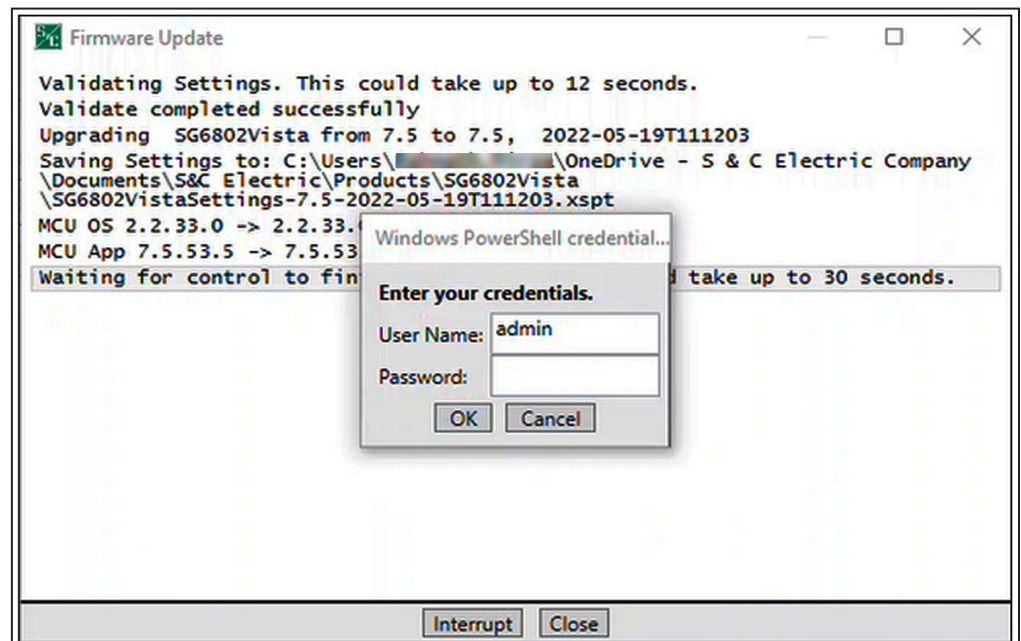

Figure 34. The Windows PowerShell Credential dialog box.
STEP 12. If the Windows PowerShell Credential dialog box appears, enter the User Name and Password, and click on the **OK** button. Contact the Global Support and Monitoring Center at 1-888-762-1100 if assistance is needed. See Figure 34.